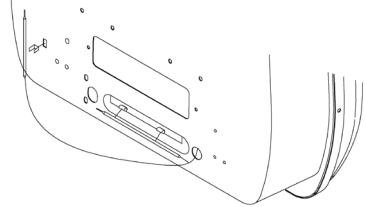

Figure 4 - Moving Thermostat Sensing Bulb
2. Take out the bulb clip from the hardware package and insert it into the square hole. Then insert the sensing bulb into the bulb clip (see Figure 4).